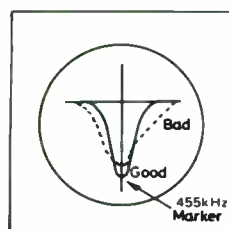

Fig. 2
- (d) Align each of I.F.T. (T202, 203 and 204) to obtain the maximum and symmetrical wave form on the scope (Fig. 2).